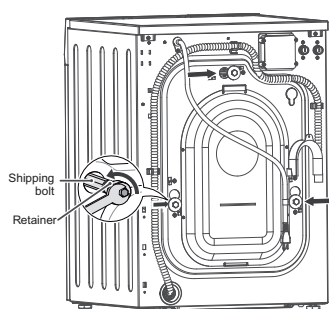
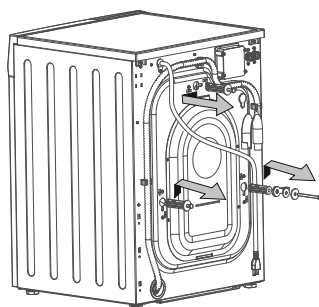
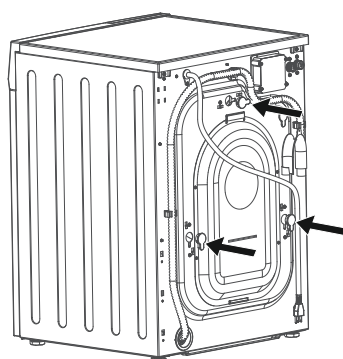

Fig. 1
Fig. 2
Fig. 4
**Important:** The inside of the Washer⊕Dryer consists of a free floating drum that is affixed with shipping bolts at the back of the cabinet during transport (Fig.1). The power cord can be accessed by removing the shipping bolts (Fig. 2 & 3). Close the holes left open by the bolts with the caps provided (Fig. 4).